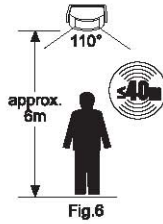

Fig.6
9. Now find a suitable installation site for the movement sensor. The detection distance is approx. 6 m. The transmitting range between the movement sensor and the wireless chime depends on the local conditions and is a maximum of 40 m if unobstructed (Fig. 6). The movement sensor can be adjusted by swivelling it vertically inside its holder.